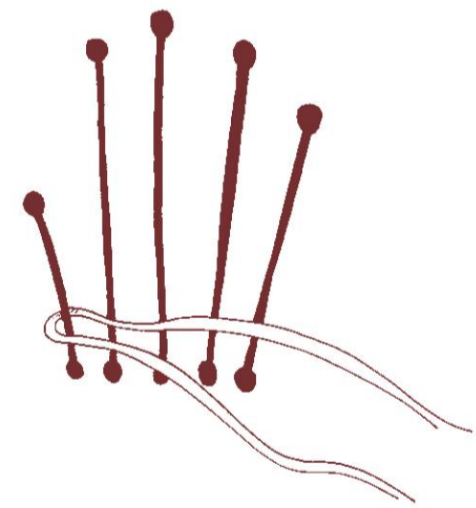

Figure 1
**3** Cut a 40-inch (100 cm) length of 24-gauge copper wire to use as the weaver for the spokes. Bend the length in half. Starting with the thumb wire, loop the half length around the thumb spoke as shown in figure 1. You now have two weavers, and you are beginning at the bottom part or wrist area of each hand.